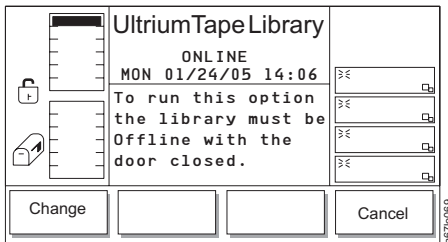

Figure 4-176. Library Submenu
2. Press the button below the **Library** softkey. The Library Submenu displays (see Figure 4-176).